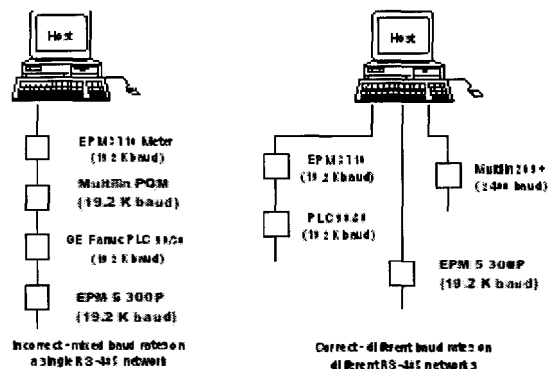

Figure 8. Network illustrating Modbus Rule 3.
3. All Modbus IEDs on a single RS-485 network must communicate at the same baud rate. If IEDs with different communication speeds are connected to the same RS-485 network, the whole segment will communicate at the speed of the slowest IED. Figure 8 illustrates this rule. (Communication speeds for supported IEDs are listed in Table 1.)